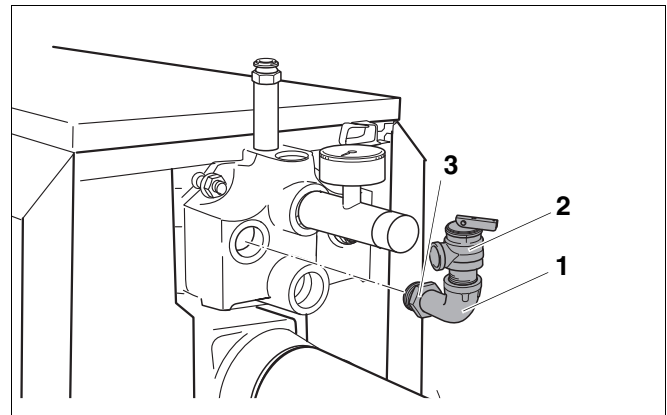

Fig. 47 Installing B-Kit
- Seal pressure relief valve connection (→ Fig. 47 page 34) and all other open connection with blind plugs.
- Installing pressure relief valve (→ Fig. 47 page 34).